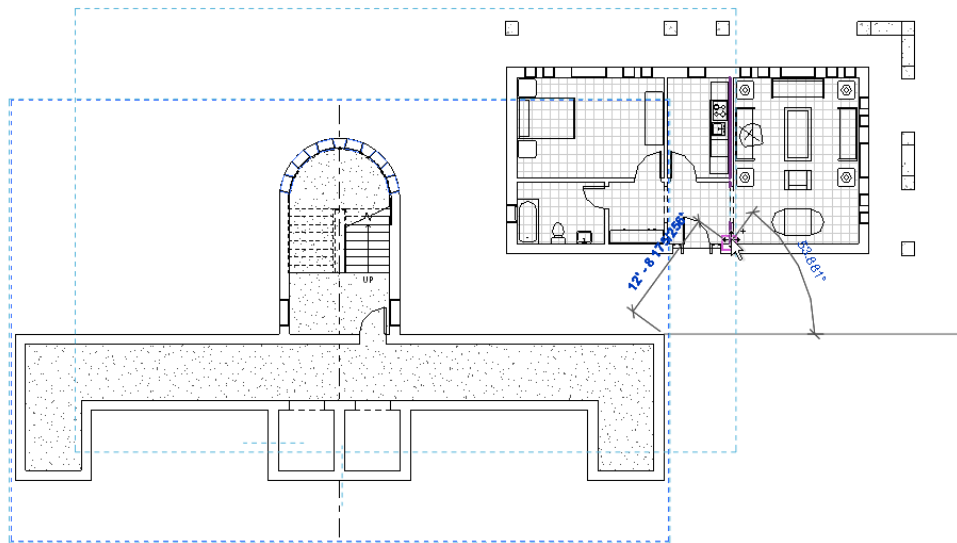

Figure 16-70 Moving the elements of the Elevator and Stair Lobby project
- a. Copy and paste elements of the *Elevator and Stair Lobby* project and the *Apartment 2* project to the base file, refer to Figures 16-70 through 16-72.
7. Choose the **Move** tool from the **Modify** panel of the **Modify | Model Groups** tab and move the selected elements using the object snaps, as shown in Figure 16-70. Ignore any warning message at this stage. Now, choose the **Finish** button from the **Edit Pasted** panel to clear the current selection.
17. Next, select the overlapping wall of the *Elevator and Stair Lobby* project near the entrance of the *Apartment 2* project, refer to Figure 16-70 and choose the **Delete** tool from the **Modify** panel of the **Modify | Walls** tab; the selected walls are deleted.